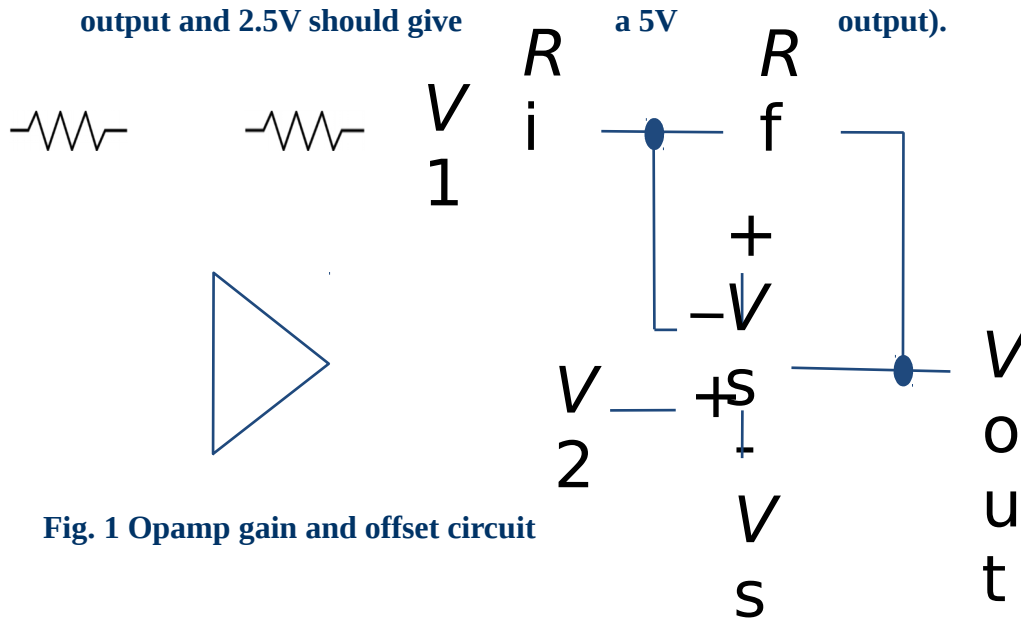

Fig. 1 Opamp gain and offset circuit
- In the following questions, you want to calibrate a linear sensor using the circuit in Fig. 1 so that its output range is 0 to 5V. Identify: 1) which of V1 and V2 will be the input voltage and which the reference voltage; 2) the value of the reference voltage; and 3) the value of R_f/R_i in each case. If the calibration can't be done with this circuit, explain why.